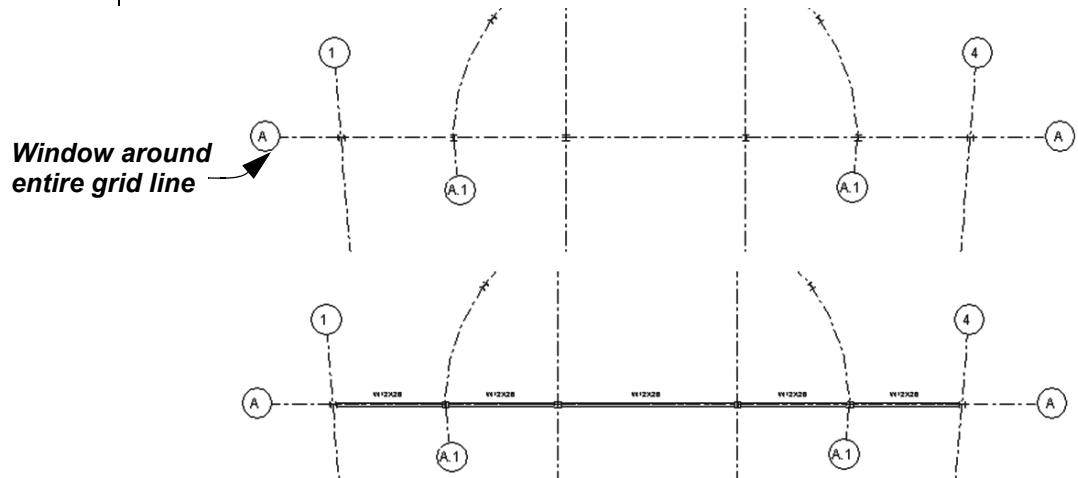

Figure 7–4
3. Select the grids where you want to place the beams. A beam is placed between each grid intersection, as shown in Figure 7–4. Hold <Ctrl> to select more than one grid, or use a selection window to select multiple grids at one time. Columns must be in place in order to add multiple beams at the same time.
Beam systems are layouts of parallel beams within a structural quadrant giving the structure added support, as shown in Figure 7–5. Typically used in joist layouts, beam systems can be set up to use either a fixed distance or number of beams.